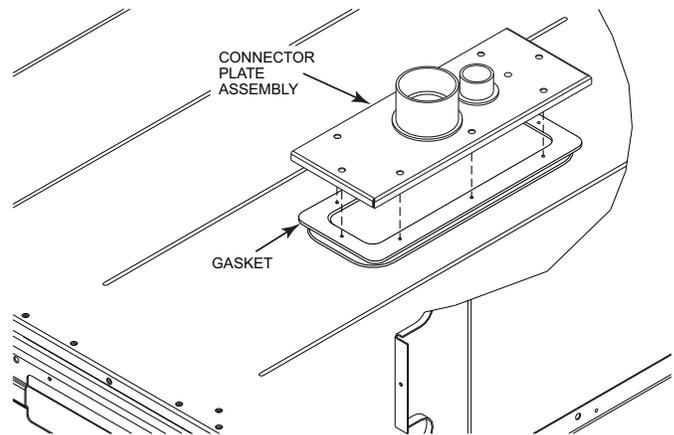

Fig. 50 — Completing Installation of Thru-the-Base Option
3. Place the gasket over the embossed area in the basepan, aligning the holes in the gasket to the holes in the basepan. See Fig. 50.